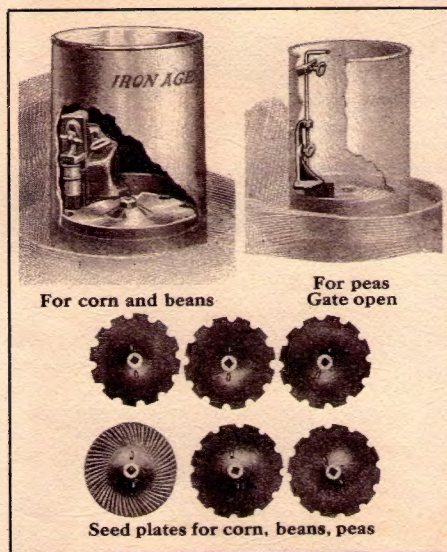
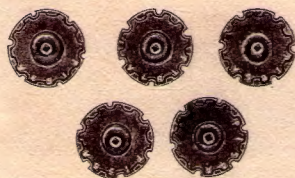

Fig. 267. Corn, bean and pea attachment.
Fig. 296
- No. 400RS — (No. 400R with seed attachment, Fig. 267, page 7).....
use Fig. 296. The plates are the same as those furnished regularly except that alternate holes are plugged and seed can be dropped at 24, 28, 31, 34, 37, or 40 inches apart. They may be ordered in place of those shown in Fig. 267. Or, if wanted in addition to Fig. 267, they cost By using one of the small extra fertilizer sprockets (Fig. 481, page 6) on the feed wheel shaft, seed can be dropped closer than 12 inches.